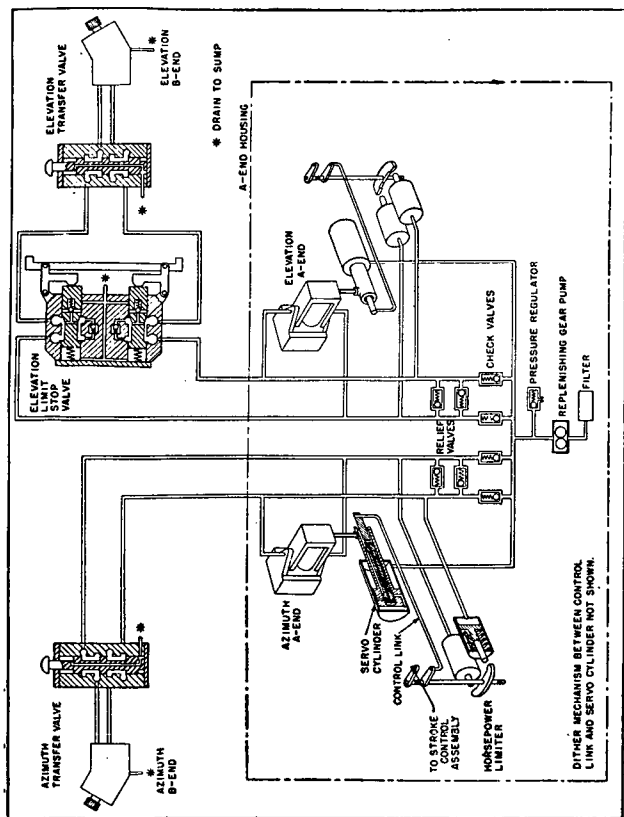

FIGURE 22—Hydraulic system—schematic.
c. Hydraulic system.—The hydraulic system accomplishes the actual moving of the gun. It works as a variable speed rotary drive. (See figs. 22 and 25.)
(8) *Horsepower limiters* (fig. 22).—If there is too much pressure, the relief valves detour the flow of oil, so that it flows back to the A-end pump without going through the B-end motor. However, it may be necessary to reduce the rate of delivery of oil to the A-end pumps when the B-end motor is